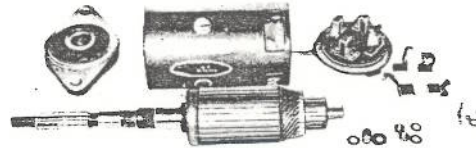

Fig. 10-31
- (4) Pull out the through bolts and remove the front cover and armature assembly.
- (5) Remove the carbon brushes and nut clamping the terminal screw. Then the rear cover assembly and yoke assembly can be dismantled as illustrated in Fig. 10-31.